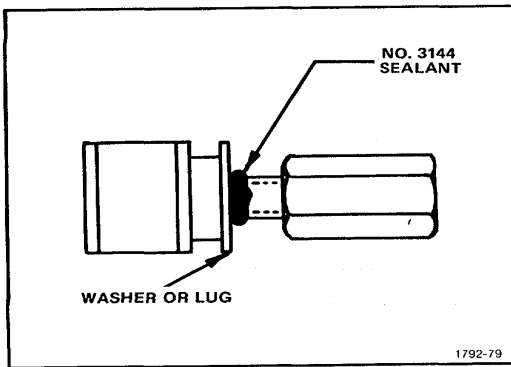

Figure 5-26. Application of sealant to the GAIN or the 0-dB SET control bushing.
**22. Install the VAR control and the GAIN control (see Figs. 5-26 and 5-27)**
1. Partially unscrew Hex spacer nut and form a bead of No. 3144 sealant around the bushing threads as shown in Fig. 5-26.